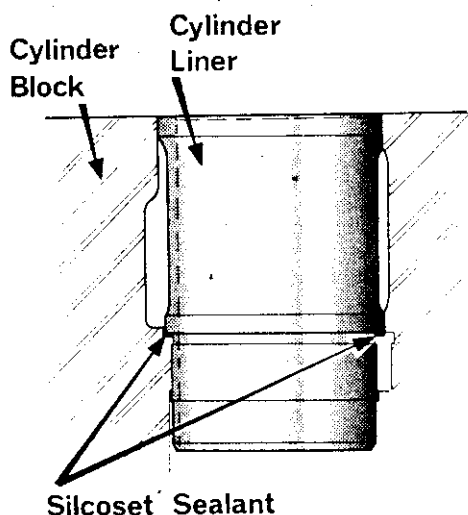

Figure 27 Sealing cylinder liners
1. Smear "Silcoset 152" sealing compound thinly around the seating face of the liner and its location in the cylinder block, making a thin but complete 360° seal. (Figure 27)